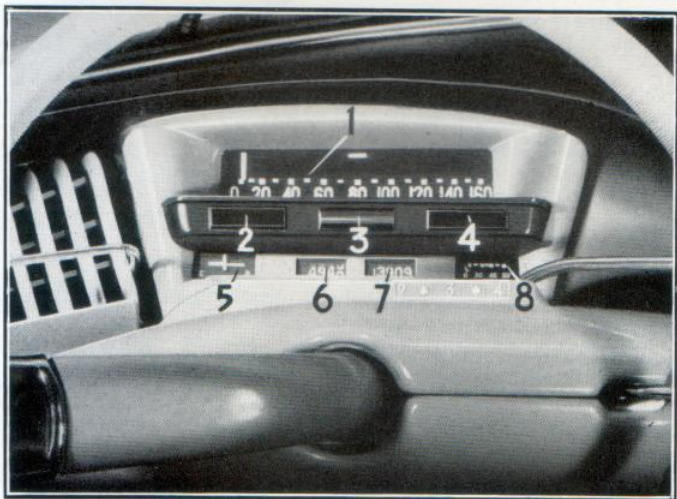

Figure 7
Dash Board (figs 7, 8 and 9).
I. — Figure 7 :